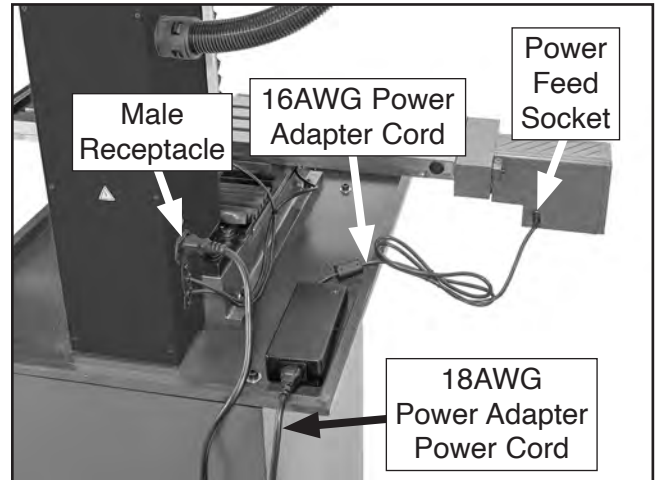

Figure 20. Power adapter connected to power feed and power cord.
3. **G0983 Only:** Connect 16AWG power adapter cord to power feed socket (see **Figure 20**).
4. **G0983 Only:** Connect 18AWG power adapter power cord to male receptacle on power adapter (see **Figure 20**).